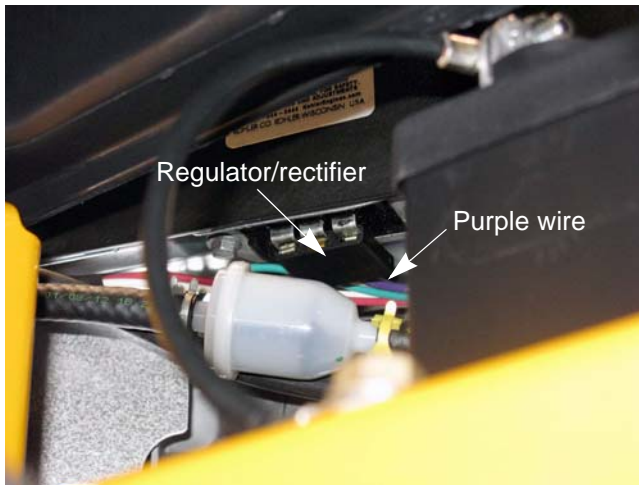

Figure 7.16
3. The regulator/rectifier takes alternating current and converts (rectifies) it to DC (Direct Current). The regulator rectifier also regulates the voltage to a nominal 12 volts. See Figure 7.16.